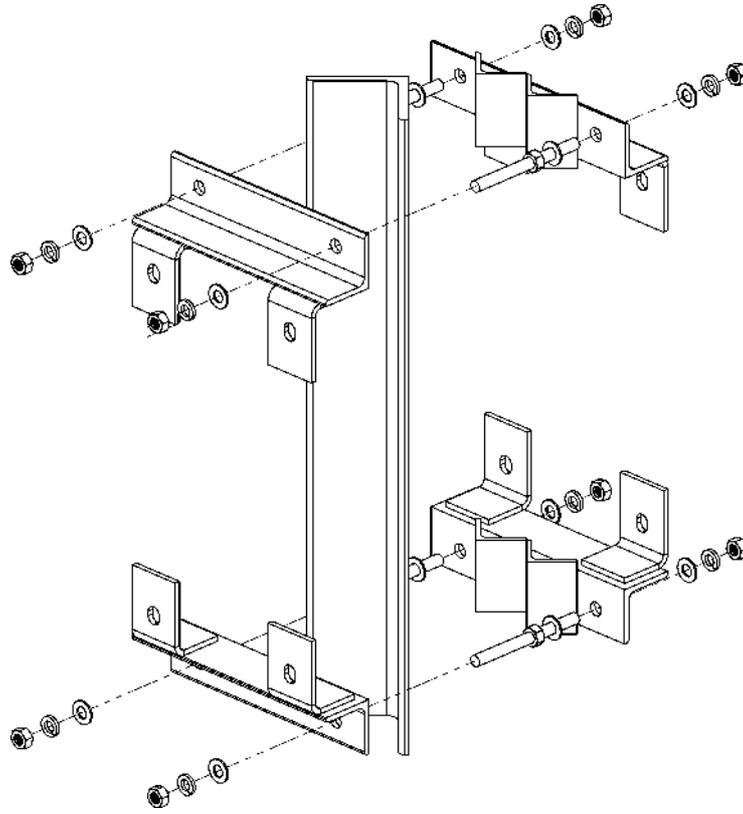

Figure 2-15: Assembling the Mounting Brackets
- 2 Assemble the mounting brackets at the desired location on the L-shape mast as shown in Figure 2-15. Tighten using the supplied washers, spring washers and nuts.